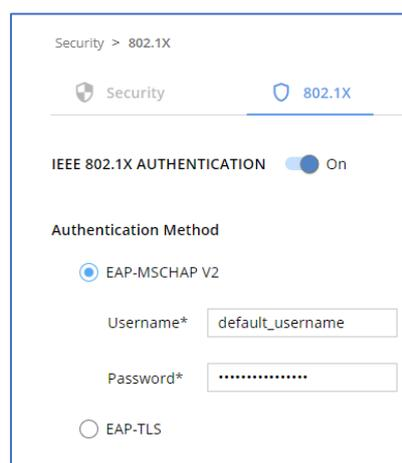

Figure 52: EAP-MSCHAP V2 Authentication Method
2. Select **802.1X** tab. The 802.1X settings tab appears (see Figure 52).